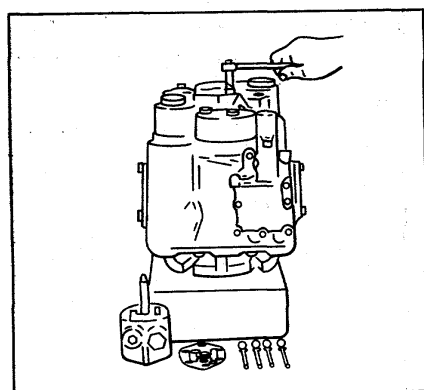

Figure 5.
2. Using a drag link, unscrew check valve from end cap (refer to Fig. 5).
The checks must be below the face of the end cap. (Refer to Fig. 5.)